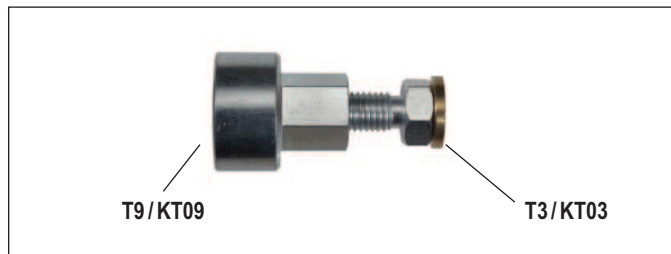
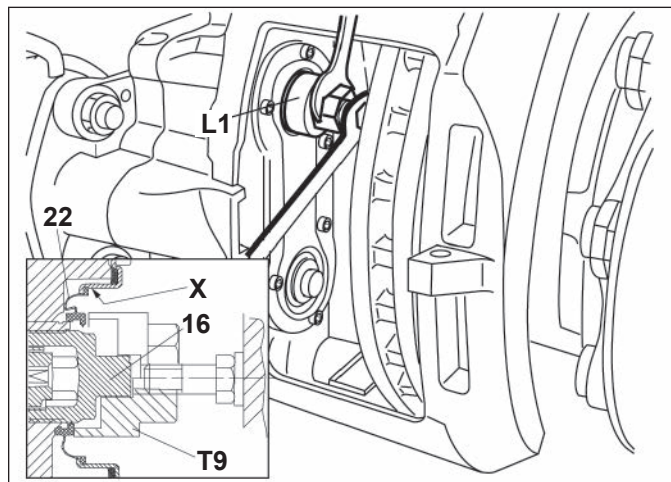

Figure 52 – On-Vehicle Inner Seal Tool (L1)
Figure 53 – On-Vehicle Inner Seal Installation
5.5.12 Position the replacement inner seal (22) over the threaded tube (16). See Figures 52 and 53 for the tools and installation arrangement used. Position the L1 (T3 + T9) with the short spacer (T3) in position as shown in Figure 53. Guide the tool over the end of the threaded tube (16). Install the new inner seal (22) into position by rotating the adjuster nut on the T3 portion of the tool, using an open-ended wrench.